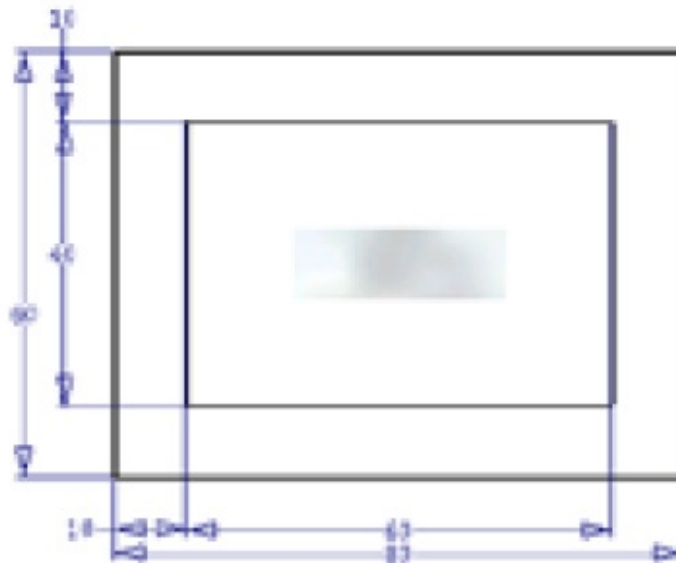

Figure 14-41 *Modified dimensions of the cavity*
2. Modify the dimensions of the cavity, as shown in Figure 14-41.